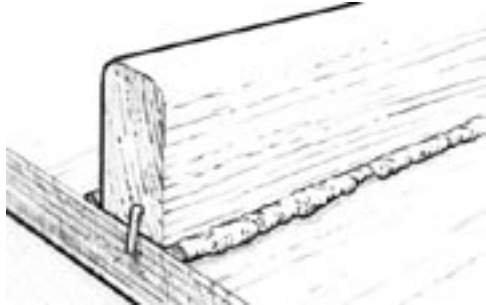

Figure 9-10 Use just enough pressure to squeeze out a small amount of thickened epoxy from the joint.
3. Clamp components. Attach clamps as necessary to hold the components in place. Use just enough clamping pressure to squeeze a small amount of the thickened mix from the joint, indicating that the epoxy is making good contact with both mating surfaces (*Figure 9-10*). Do not squeeze all the thickened mix from the joint by using too much clamping pressure.